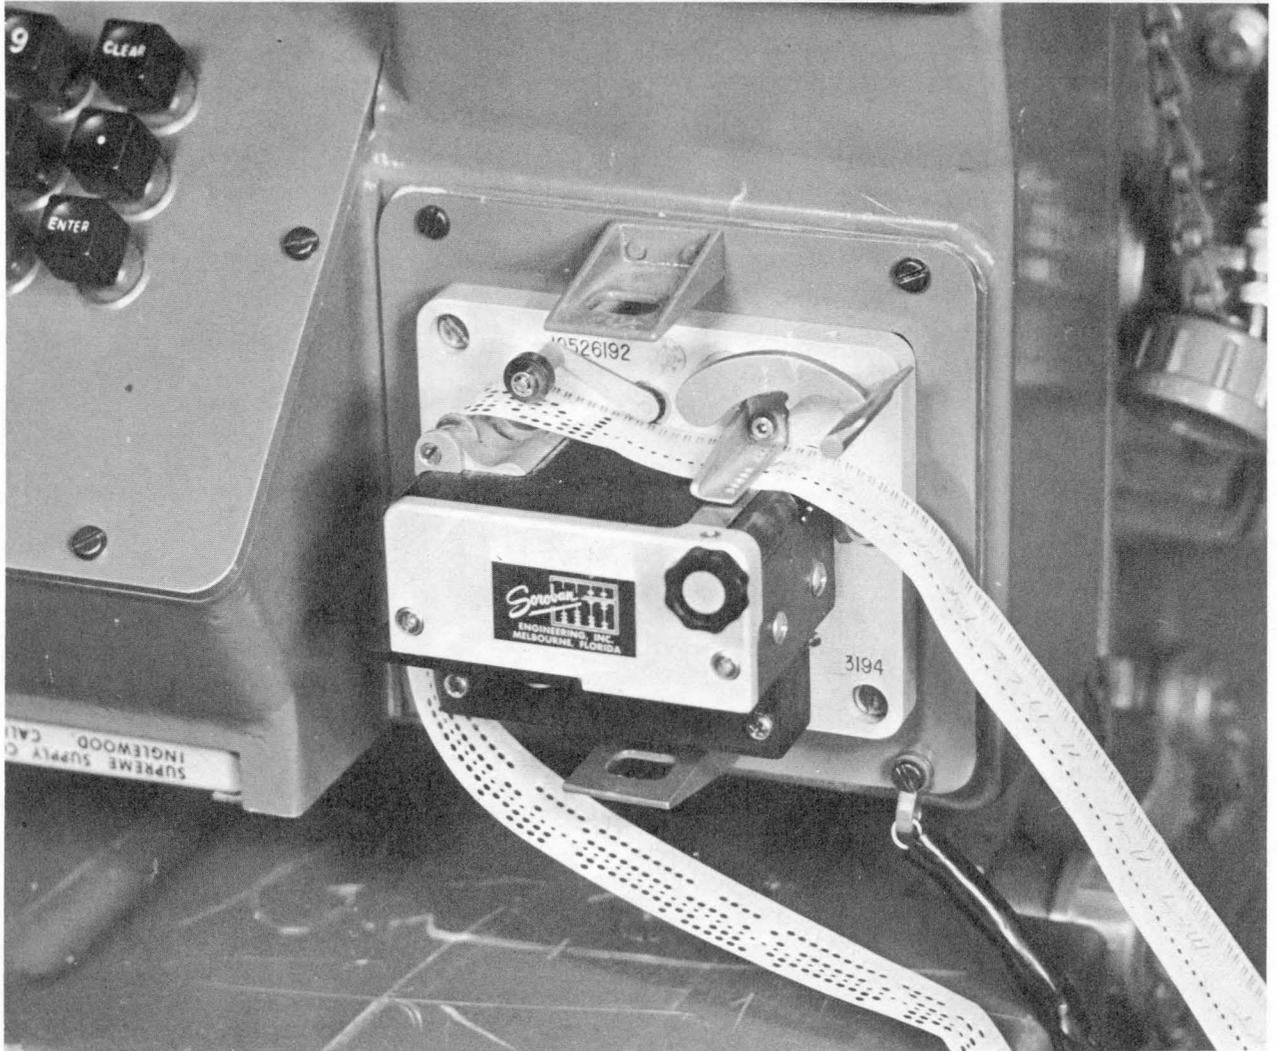

Figure 7. Placed meteorological message tape.
b. *Loading the Tape.* To place the tape on the reader, open the clamp armature that keeps the tape in place (fig. 7). Place the tape in the track with the wide side (three holes) toward the computer and the narrow portion to the outside. Insure that the entire message section